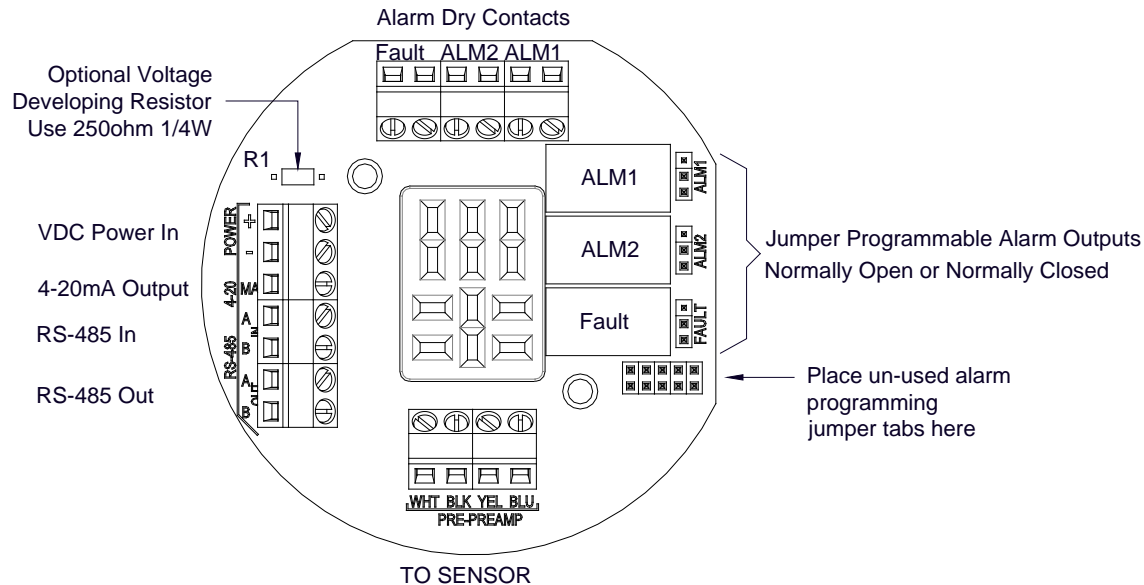

Figure 8 Sensor Connector PCB
- Position gold plated jumper tabs located on the connector board in accordance with desired Form C dry contact outputs: NO = Normally Open; NC = Normally closed (see Figure 8).
NOTE: If a voltage signal output is desired in place of the 4-20mA output, a 1/4 watt resistor must be installed in position R1 of the terminal board. A 250Ω resistor will provide a 1-5V output (– to mA). A 100Ω resistor will provide a .4-2V output, etc. This linear signal corresponds to 0-100% of scale (see Figure 8).
Any unused jumper tabs should be stored on the connector board on the terminal strip labeled “Unused Jumpers” (see Figure 8).